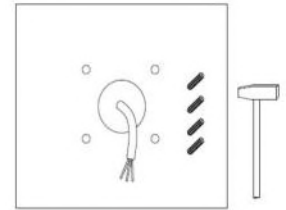

Figure 1-2
2. Fix rubber plugs into holes.(Figure 1-2)